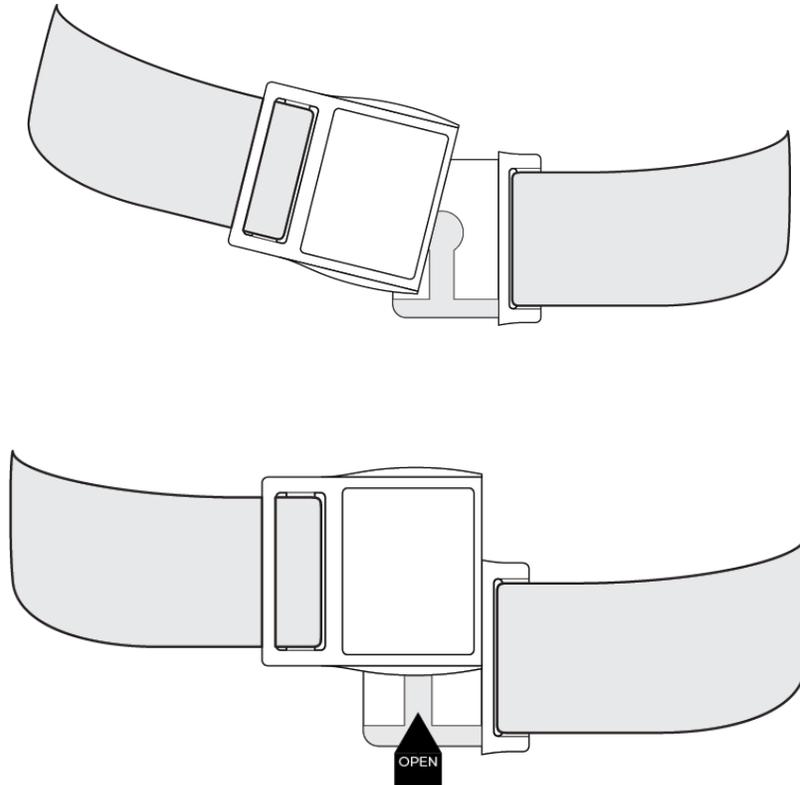

Figure 11. Operation of waist buckle
- While the participant is seated, wrap the waist belt around the participant and latch the belt. The magnetic buckle used on the waist assembly snaps closed when the ends are brought close to each other. Release the buckle by sliding the front part of the buckle upwards and the rear part down, in the opposite direction. (Figure 11)